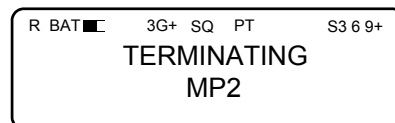

Figure 3-46. Terminating Screen
- k. The Terminating Screen will be displayed momentarily (see Figure 3-46) and the AN/PRC-150(C) will return to CH### SCANNING.
- k. The **Terminating Screen** will be displayed momentarily (see Figure 3-46) and the AN/PRC-150(C) will return to **CH### SCANNING**.
- k. The Terminating Screen will be displayed momentarily (see Figure 3-46) and the AN/PRC-150(C) will return to CH#### SCANNING.